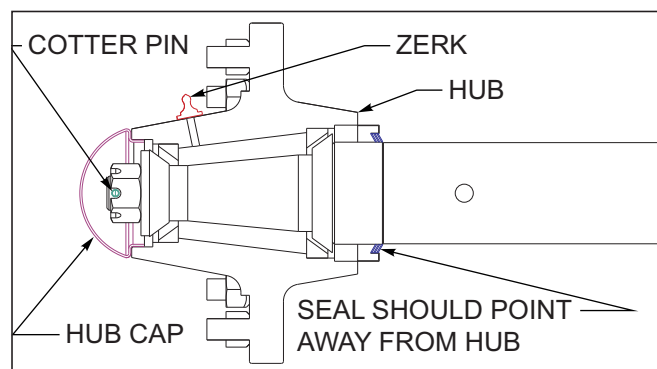

Figure 5-2: Triple Lip-Seal
The triple-lip seals should point away from the hub to keep contaminants out and allow grease to pass See Figure 5-2.
11. Install a new cotter pin and replace the hub cap. *See Figure 5-2.*